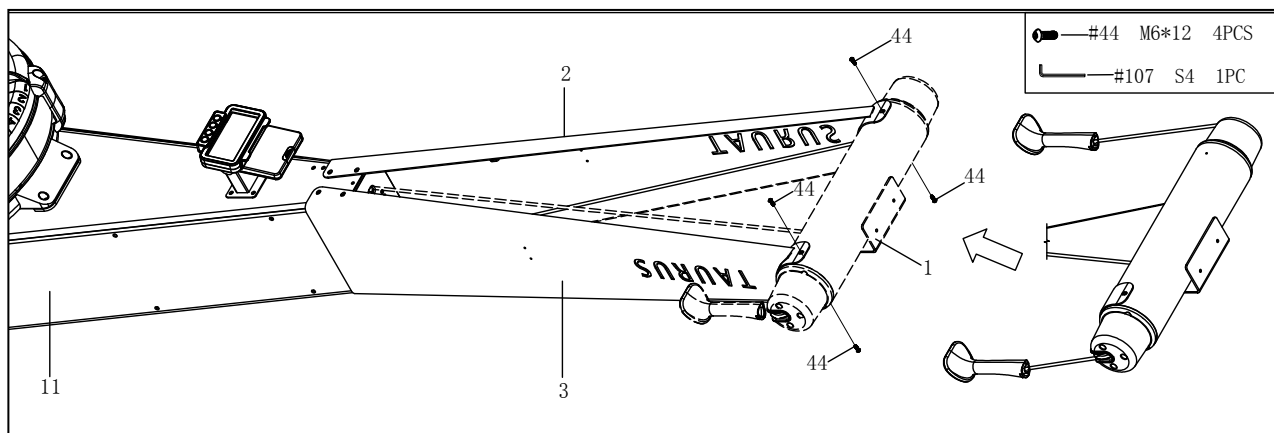

Fig. 3
3. Fix the left vertical plate (2) to the main frame (11) with four bolts (44) (Fig. 3).